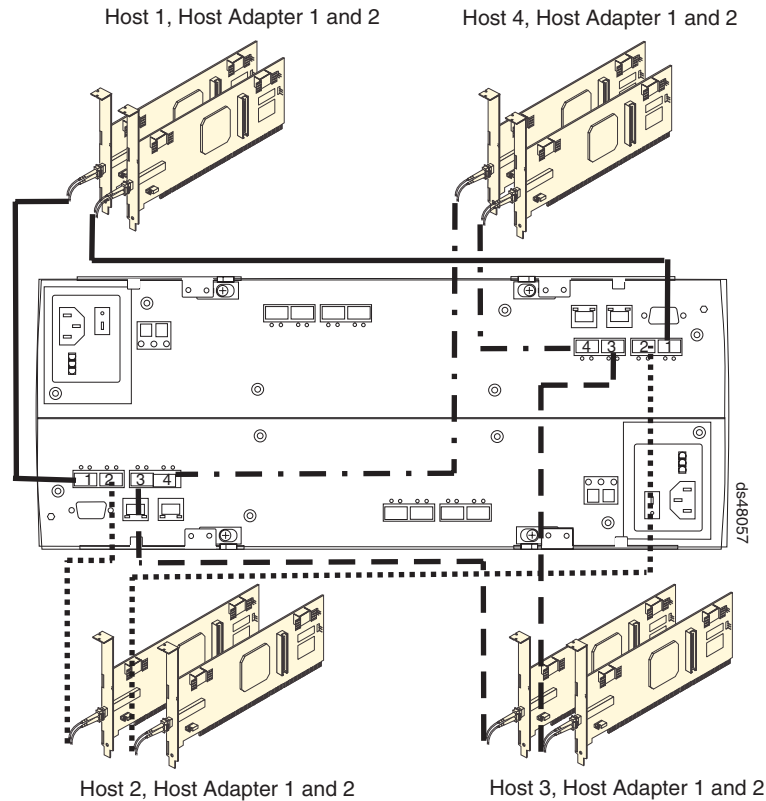

Figure 62. Cabling diagram for four redundant host connections
3. Repeat steps 1 and 2 for each additional redundant host connection. You can create a maximum of four redundant host connections, as shown in Figure 62 on page 89.
**Note:** Figure 62 on page 89 shows that the DS4800 host ports are connected to four sets of FC host bus adapters (HBAs). You can replace one or all of these sets of FC HBAs with FC switches as required.
Table 30. Description of Figure 62